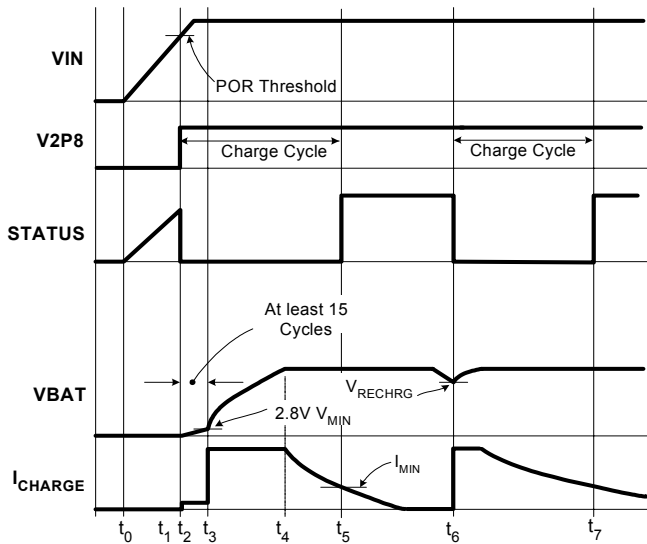

FIGURE 20. OPERATION WAVEFORMS
Figure 20 illustrates the typical signal waveforms for the linear charger from the power-up to a recharge cycle. More detailed Applications Information is given below.
The ISL9203R5220 resets itself as the input voltage rises above the POR rising threshold. The V2P8 pin outputs a 2.8V voltage, the internal oscillator starts to oscillate, the internal timer is reset, and the charger begins to charge the battery. The STATUS pin indicates a LOW logic signal. Figure 20 illustrates the start up of the charger between t₀ to t₂.
A charge cycle consists of three charge modes: trickle mode, constant current (CC) mode, and constant voltage (CV) mode. The charge cycle always starts with the trickle mode until the battery voltage stays above V_{MIN} (2.8V typical) for 15 consecutive cycles of the internal oscillator. If the battery voltage drops below V_{MIN} during the 15 cycles, the 15-cycle counter is reset and the charger stays in the trickle mode. The charger moves to the CC mode after verifying the battery voltage. As the battery-pack terminal voltage rises to the final charge voltage V_{CH}, the CV mode begins. The terminal voltage is regulated at the constant V_{CH} in the CV mode and the charge current is expected to decline. After the charge current drops below I_{MIN} (1/10 of I_{REF}, see End-of-Charge Current for more detail) for 16 cycles of an internal oscillator, the ISL9203R5220 indicates the end-of-charge (EOC) with the STATUS pin. The charging actually does not terminate. Signals in a charge cycle are illustrated in Figure 20 between points t₂ to t₅.
recharge threshold, V_{RECHRG} (see Electrical Specifications). Then the STATUS pin goes low and a new charge cycle starts at point t_6 . The charge cycle ends at point t_7 with the STATUS pin again going high, as shown in Figure 20.
The EOC current I_{MIN} sets the level at which the charger starts to indicate the end of the charge with the STATUS pin, as shown in Figure 20. The charger actually does not terminate charging. In the ISL9203R5220, the EOC current is internally set to 1/10 of the CC charge current, that is,